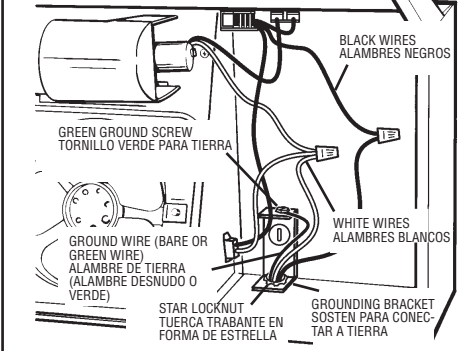

FIG. 13
- Electrical line is routed through appropriate knockout opening. This step will have to be accomplished while positioning hood. (FIG. 13)
Remove filter by turning filter clip to the side and lifting filter out. In ducted version, turn filter retaining clip to one side and place aluminum filter over embossed retaining tabs on back of fan housing. Turn filter clip so that the low end of clip holds single filter firmly in place. (FIG. 13)
- La línea eléctrica pase a través de la abertura de quitar golpeando. Este paso se puede conseguir mientras se posiciona el extractor. (FIG. 13)